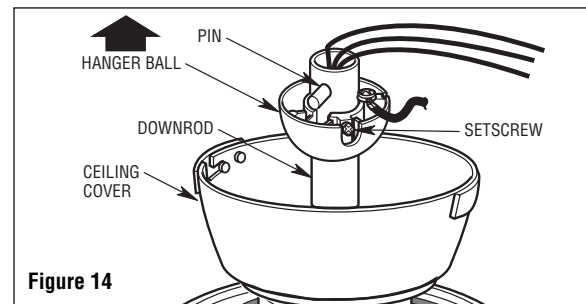

Figure 14
7. Reinstall the hanger ball (Figure 14) on the downrod as follows. Route the motor leads through the downrod. Position the pin through the two holes in the downrod and align the ball so the pin is captured in the groove in the top of the hanger ball. Pull the hanger ball up tight against the pin and securely tighten the setscrew in the hanger ball. A loose setscrew could create fan wobble.